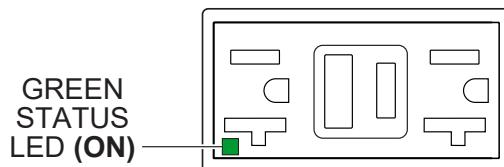

Figure 79. GFCI Receptacle (ON)
3. Verify that the status LED on the corresponding GFCI receptacle (Figure 79) is **ON (GREEN)**.